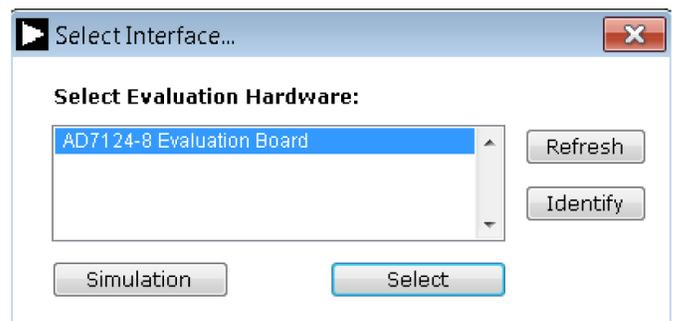

Figure 32. AD7124-4/AD7124-8 Evaluation Board Selection
7. When running the software, select the evaluation board that is connected to the PC. For the AD7124-8, select EVAL-AD7124-8SDZ from the dropdown menu (see Figure 32).